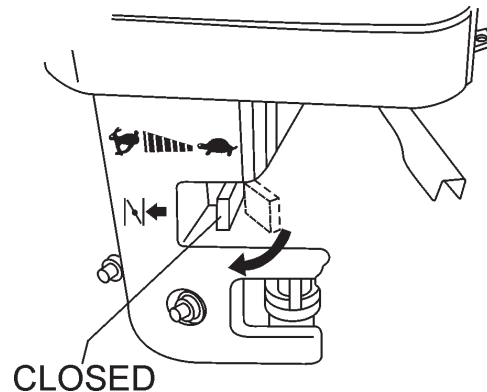

Figure 13. Engine Choke Lever (Closed)
3. Place the **choke lever** (Figure 13) in the "CLOSED" position if starting a **cold** engine.